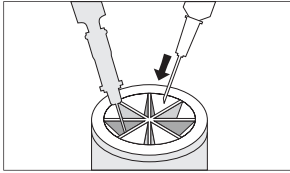

Figure 1
- Using one-handed technique, firmly push needles into disposal cup holes (refer Figure 1).